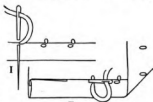

FIGURE 20
*Warp Stitch* (Figure 20). — This stitch is the hemming stitch taken parallel with the warp thread. Start by drawing the